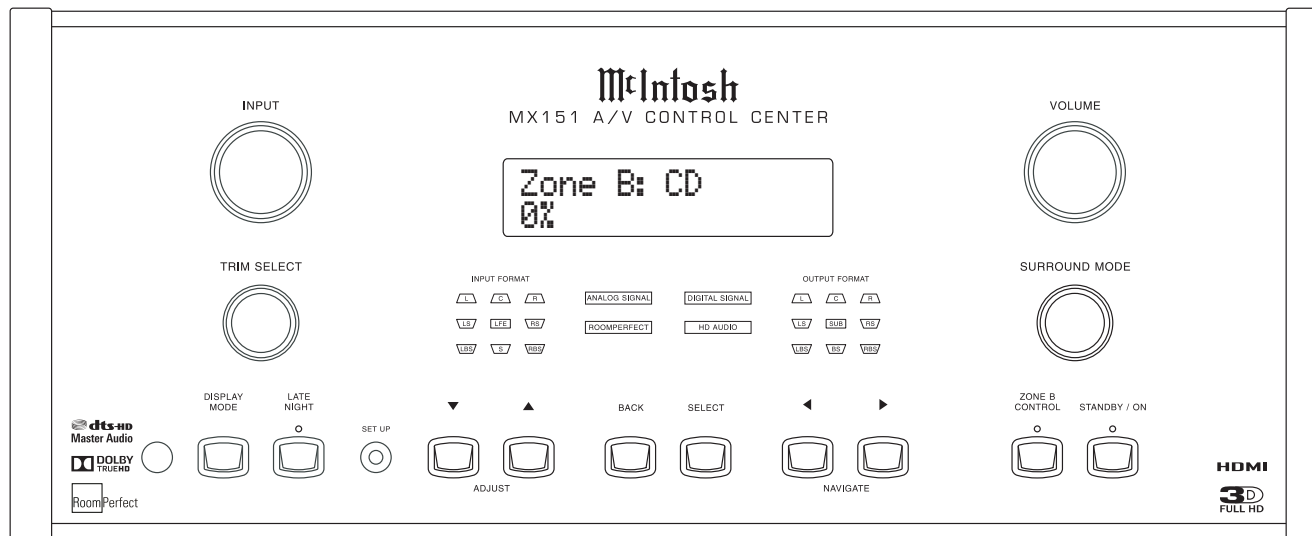

Figure 82
1. When the MX151 is Off, press the ZONE B CONTROL Push-button and the LED above the Push-button will illuminate. Then press the STANDBY/ON Push-button. After the start up initialization the Front Panel Information Display will indicate the Zone B Source and volume setting. Refer to figures 82 and 83.